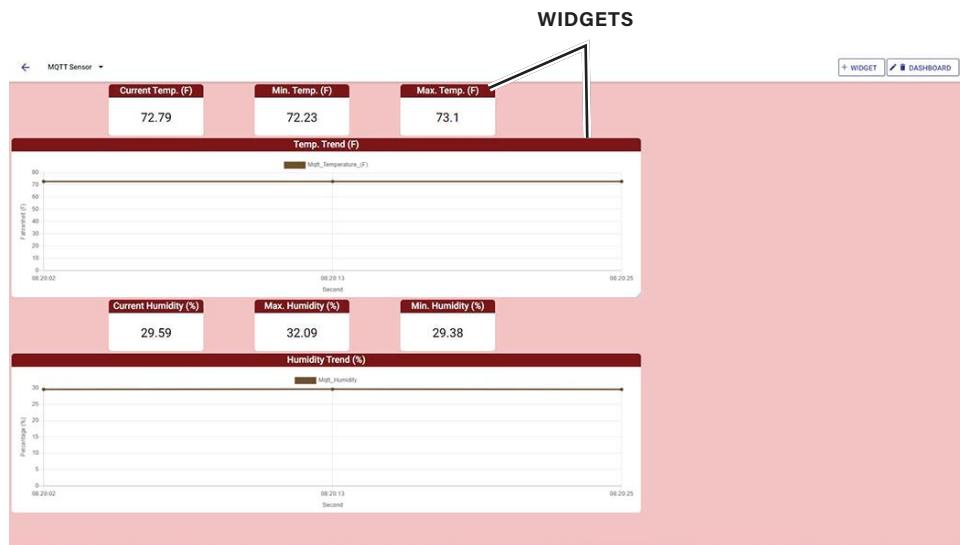

Figure 5-13. BorgConnect Dashboard MQTT Sensor Application
10. Perform the following substeps to familiarize yourself with the MQTT Sensor application in the BorgConnect Dashboard as shown in figure 5-13.